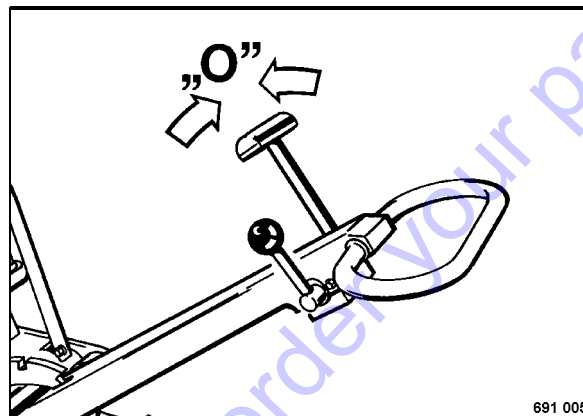

Fig. 6
- Set the travel lever (reversing lever) (Fig. 6) to position '0'.